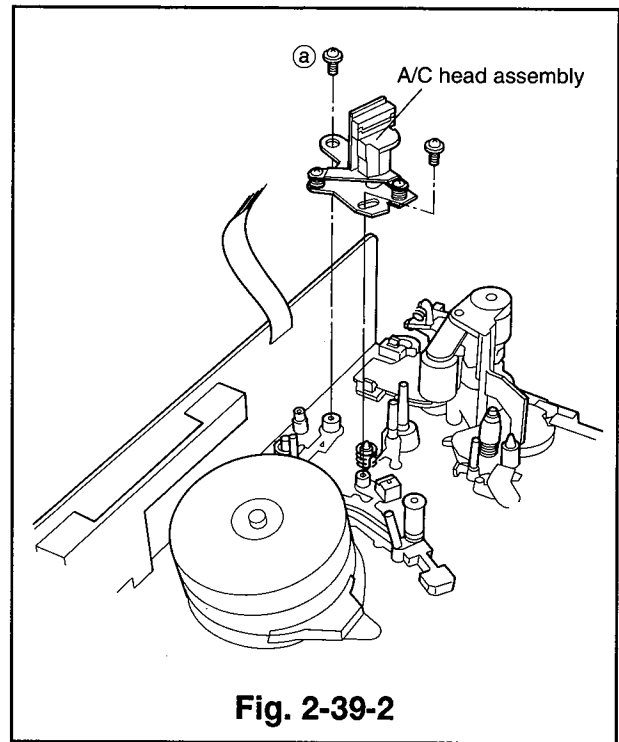

Fig. 2-39-2
- ② Remove the two screws(Ⓐ and Ⓑ) holding the A/C head assembly to the main plate, and to remove the A/C head assembly. (Refer to Fig. 2-39-2.)
- ② Place the A/C head assembly in the position shown in Fig. 2-39-2 and secure it with the two screws(㉑ and ㉒).